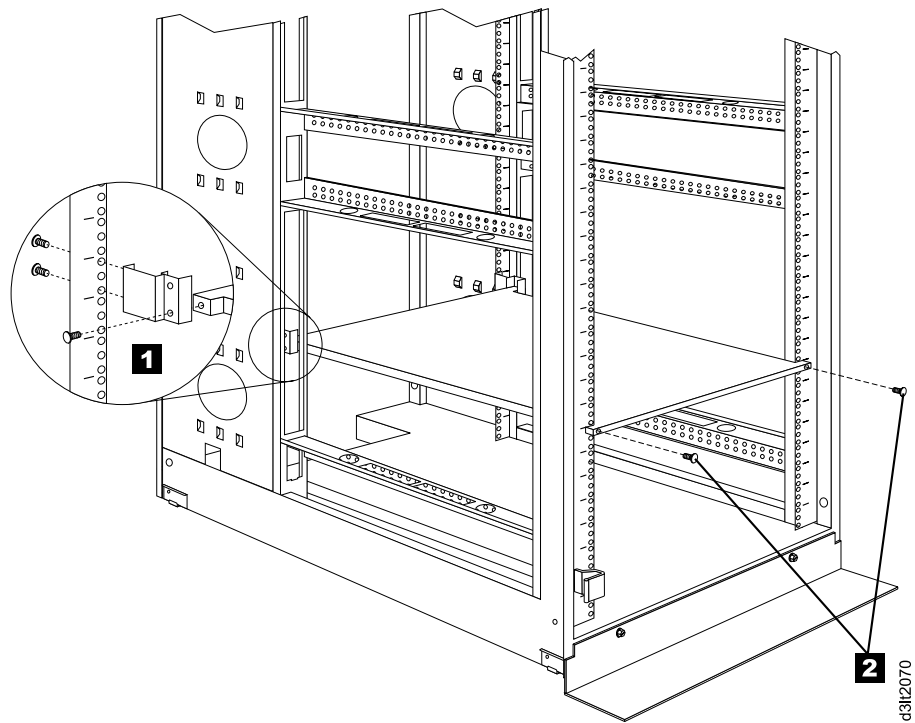

Figure 35. Attaching the shelf extender brackets
5. If you are installing the shelf with the extender brackets, attach the two brackets to the back corners of the shelf by using a single screw on each bracket (see **1** in Figure 35).
9. Insert two screws through the holes in the front flanges. Loosely thread the screws into the cage nuts in the front mounting rails (see **2** in Figure 35).
11. Insert two screws through the holes in each rear mounting rail and loosely thread the screws into the threaded holes on the shelf extender brackets (see **1** in Figure 35). Skips steps 12 through 16 and go to step 17 on page 100.